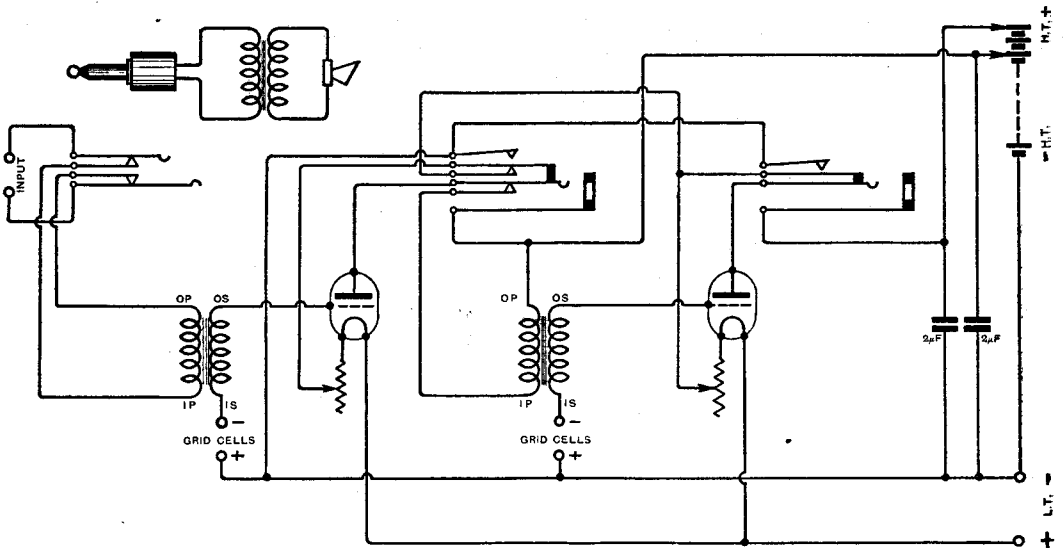

Fig. 2. "R.T." (Oldham). A two-valve power amplifier in which the number of valves in use may be controlled by telephone plugs and jacks.
(1) A suitable circuit is given in Fig. 2. We recommend the use of telephone plugs and jacks for the control of the number of valves in use. When
largely upon the condition of the battery and its internal resistance. Often it is possible to operate a receiver successfully without any H.T. condenser when the batteries are new. When more than one H.T. tapping is employed, it is advisable to connect separate condensers between each tapping and -H.T., as in Fig. 2. Each of these condensers may be given a capacity of  $2\mu\text{F}$ , as you intend to use power valves which consume a rather higher H.T. current than valves designed for general reception.